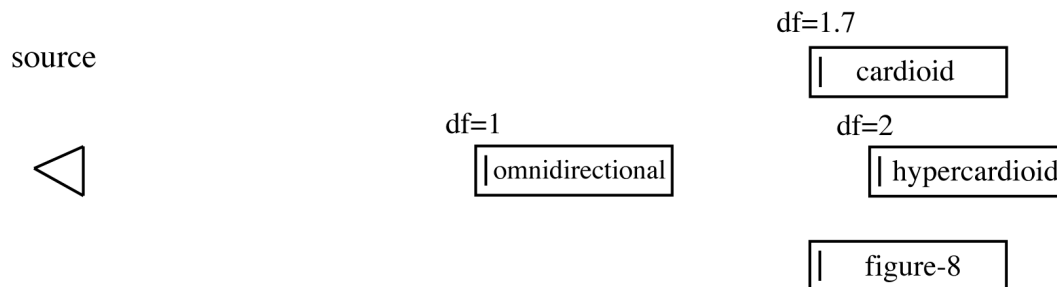

Fig.3 Distance factor
direct to reflected sound. It is often desirable to place microphones at some distance from an instrument, since that allows sound radiated from the whole instrument to be picked up. A simple measure of a microphone's directional selectivity is the distance factor (DF), whereby the microphone's selectivity is measured against that of the omnidirectional pattern. With the omnidirectional DF=1, the cardioid and figure-eight have DFs of 1.7 and the hypercardioid has a DF of 2, hence a hypercardioid can be twice as far from the source as an omnidirectional and maintain the same ratio of direct to ambient sound. Other ways to measure this characteristic include the random energy efficiency (REE) and the directivity factor. All give essentially the same information. Figure 3 shows the relative distances for equivalent direct-to-ambient pickup.